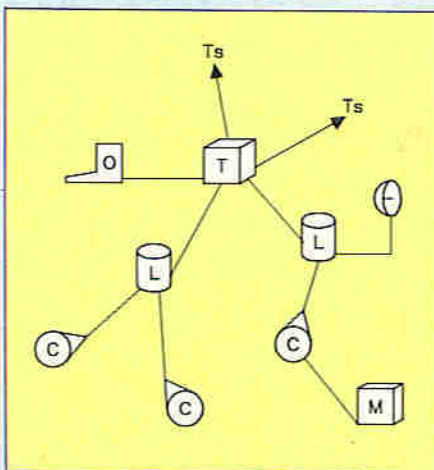

Figure 2. System X network structure.
Figure 2 illustrates this network structure, with concentrators (C) interfacing telephones, faxes, telexes, computer modems (M), to the trunk network (T) via the local exchange (L). Operators (O) are now connected at trunk exchanges, though they may be geographically separated from the actual exchange equipment by many miles.